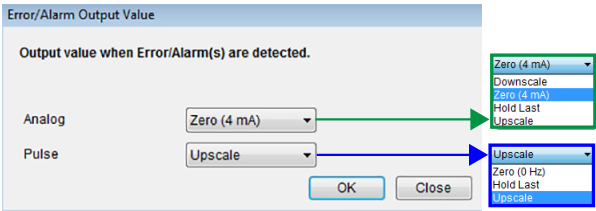

Figure 2.10—Error/Alarm Output Value dialog [Analog (green) and Pulse (blue) dropdown menus]
1. Click **Setup>Outputs>Error/Alarm Output Value**, and select the desired default output signal(s) from the *Output When in Error/Alarm Output Value* dialog (Figure 2.10). Table 2.3 details the available options.